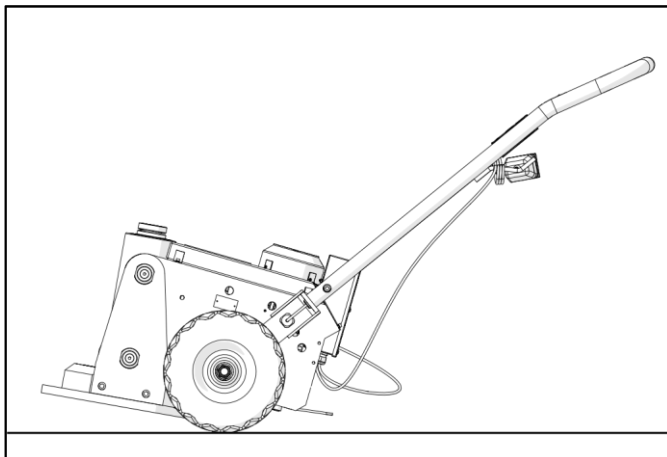

Figure 5.2: Moving the Unit
2. Use the handle (7) to tilt the jack right back onto its wheels, allowing it to be manoeuvred to its required location (See figure 5.2).